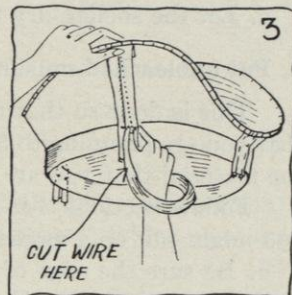

FIG. 3.
- k. Graduate this ribbon wire, so that, as it reaches the headsize, it laps over the one already sewed at the side, a little more than it was lapped at the edge (see Figure 3). Watch the ribbon wire carefully as you make the sharp bend at the headsize. The ribbon wire must fit close to the headsize wire. Cut it off, so it extends $\frac{1}{2}$ inch above the top of the headsize band.
- l. Buttonhole this lapped ribbon wire firmly at the edge and backstitch it firmly to the ribbon wire, which is already sewed in place. The backstitches must go right through the edge where the second wire laps over the first wire (see Figure 3). Backstitch second wire just over headsize wire, but not up to the top headsize.